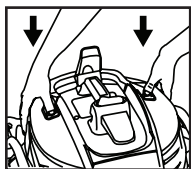

FIGURE 17
24. Place handle in original position and push down on handle ends with thumbs to secure in place. **FIGURE 17.**